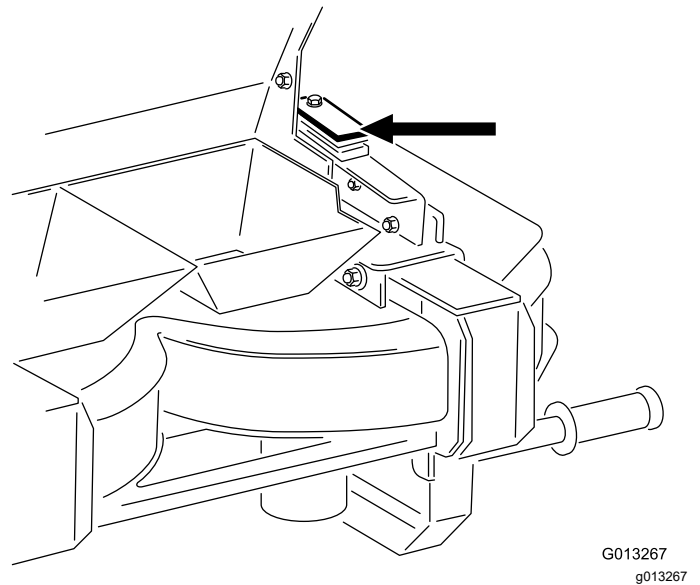

Figure 2
1. If you plan to use a twin spinner on the same top dresser, remove the top plastic spacer (3/8 inch) as shown in Figure 2, as well as the metal spacer (1/4 inch) and replace them with the plastic and metal spacers provided. This allows the previously installed side-rail plates to remain in place whether you install a twin spinner or conveyor and swivel kit.